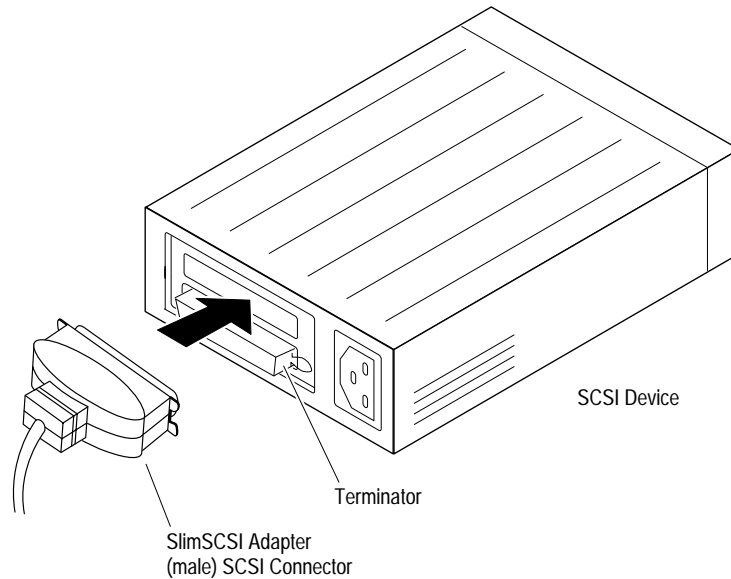

Figure 2-2. Connecting the SlimSCSI Male SCSI Connector to the SCSI Device
- 3 Connect the first external SCSI device to the SCSI connector on the SlimSCSI adapter (see Figure 2-2).
- 5 Terminate the *last* (or *only*) SCSI device connected to the SlimSCSI adapter, per manufacturer's specifications. Most SCSI devices use a jumper or switch near their SCSI connector(s) to control termination. On some SCSI devices, you must physically remove or install terminator resistor modules. An external terminator is installed in Figures 2-2 and 2-3. See your device documentation for termination information.
¹ See Figure 2-2.